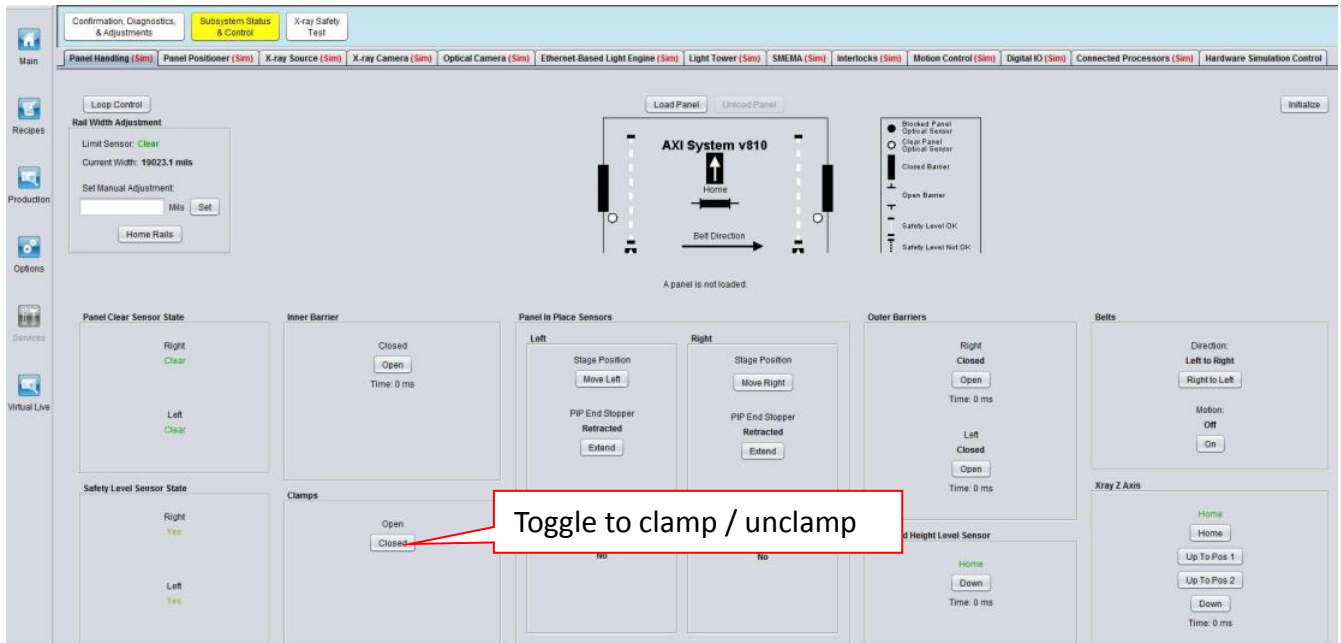

Figure 5 Clamping & Unclamping
9. Manually Clamp & Unclamp as shown in Figure 5